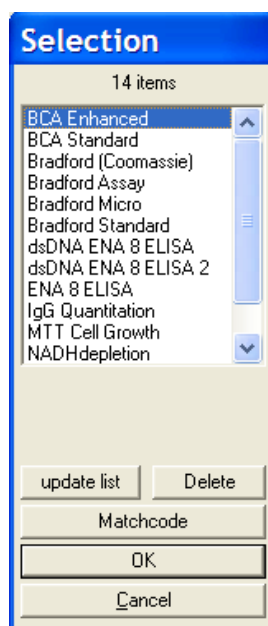

Figure 8-6: Selection – test definition
1. In Use stored Standard Curve, choose **Yes**. Selection appears (Figure 8-6):